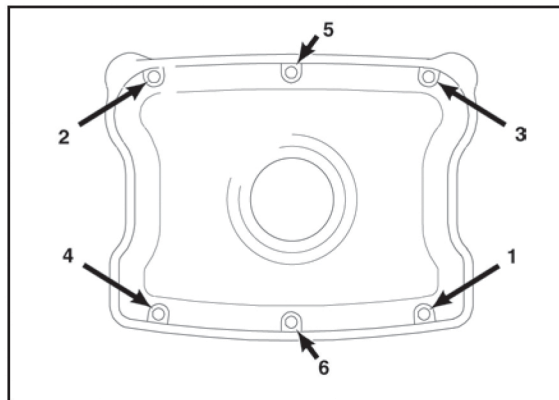

Figure 3- Harley-Davidson® Twin Cam 88® & Evolution engines
18. Install rocker cover and gradually tighten screws to 90-100 in-lbs. in sequence shown. **See Figure 3.**